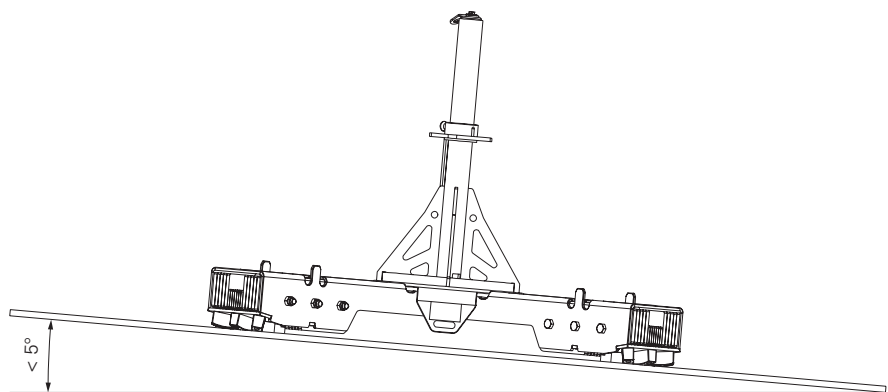

Fig. A2.03
- Angle of inclination: The standing surface must not be inclined by more than 5° to the horizontal. (Fig. A2.03)